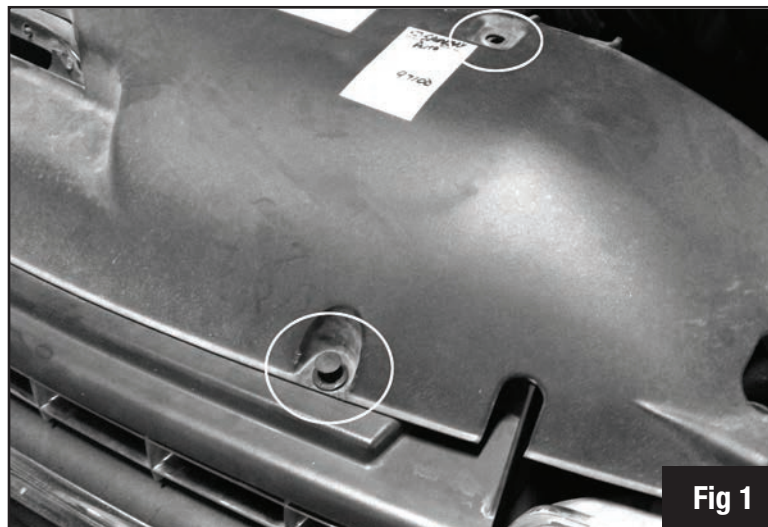

Fig 1
- 1) Remove (7) plastic clips holding radiator support cover on *Fig 1*.